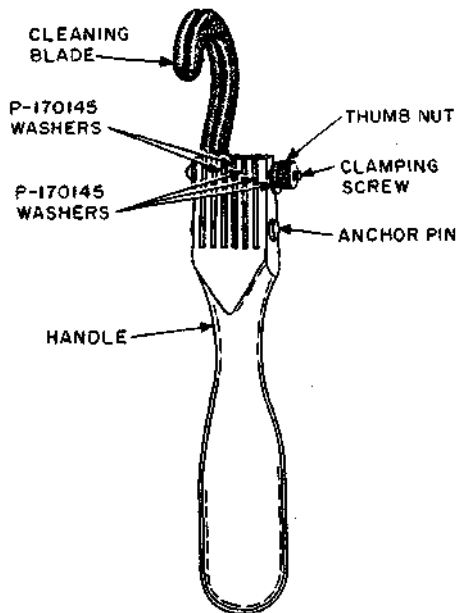

Fig. 10—517B Bank Cleaner Arranged for Cleaning Top Level of Banks on 198-Type Switches
- (4) For cleaning banks on 198-type switches, all but two blades of the 517B cleaner are removed as shown in Fig. 10. P-170145 washers supplied with the cleaner are then inserted in the spaces left blank by the removed blades, permitting the remaining blades to be clamped in the handle of the cleaner.